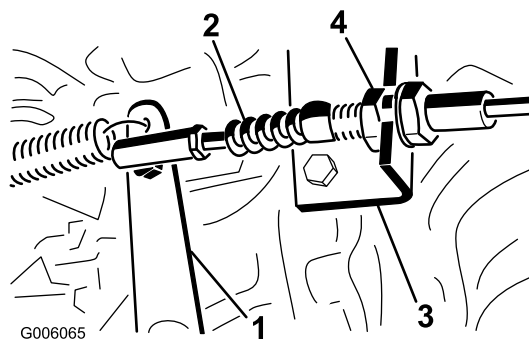

Figure 11
6. Secure the clutch cable ball joint to the clutch lever with a 5/16 inch lock nut (Figure 11).
7. Install the clutch cable mounting bracket to the bell housing with (2) M8 screws (Figure 11).